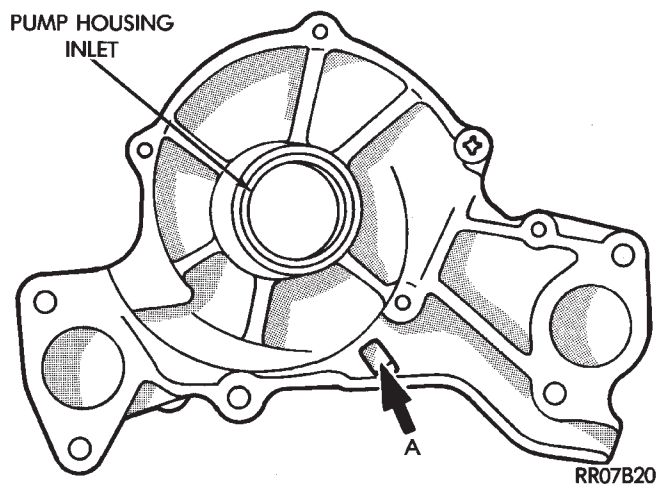

Fig. 52 Water Pump Inspection
- Coolant leaks, if the shaft seal is leaking, evident by traces of coolant leaks from vent hole A in (Fig. 52).